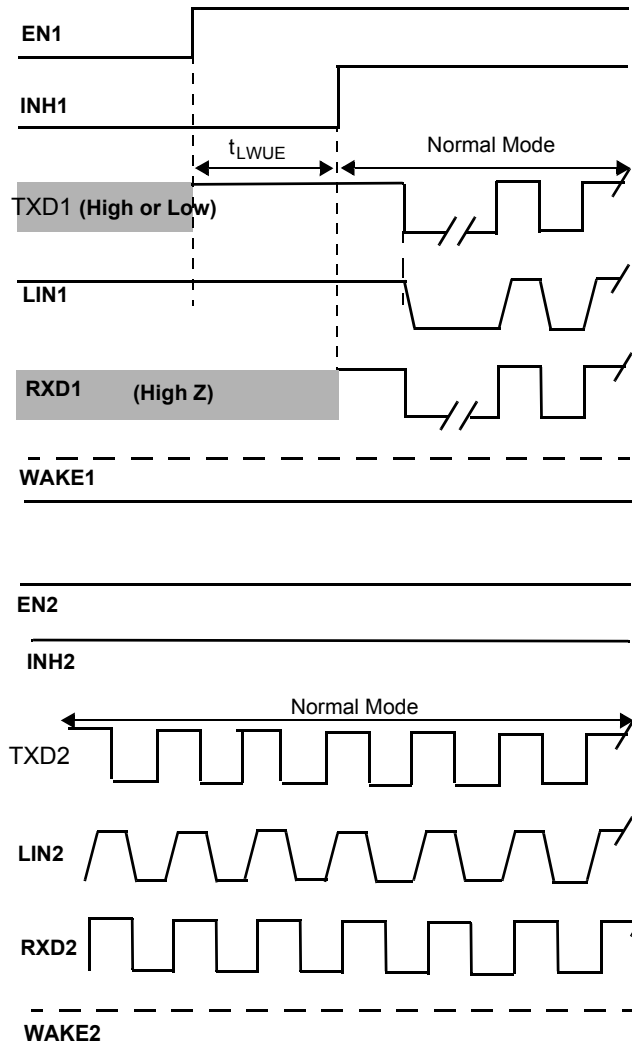

Figure 14. LIN Module 1 EN1 Pin Wake-up with TXD1 High & LIN Module 2 in Normal Mode
26. See Figures 14, 18, 22, and 23
29. See Figures 14, 15, 16, and 21